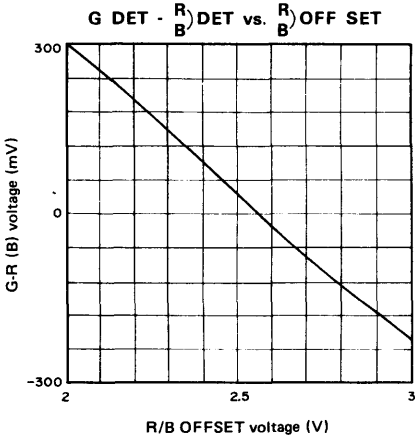

Fig. 3
Input SG1=250mV to pins (6), (8) and (7), and measure the difference between the output of pins (46) and (44) and that of pin (42) against the voltage of E5 and E6. (Fig. 3)